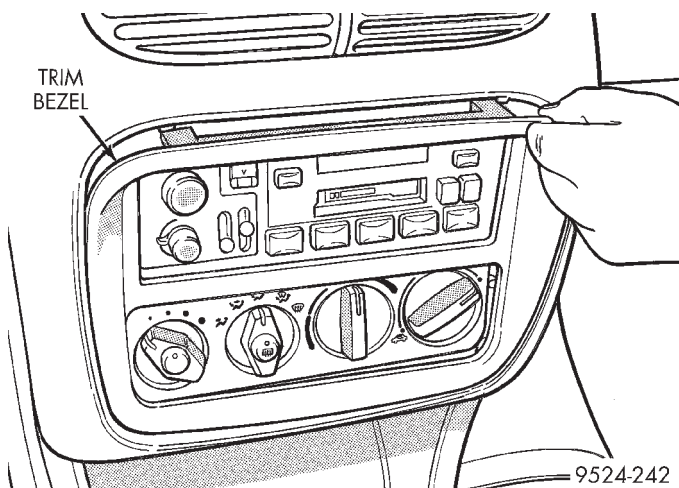

**Fig. 66 Trim Bezel**
- (1) Place the ignition key in the OFF position before removing control module.
- (2) Remove trim bezel (Fig. 66).
(2) Using an A/C recovery unit, remove all R-134a refrigerant from the A/C system.
(3) Remove air cleaner hose and air distribution duct from the engine.
(4) Drain the engine cooling system.
(5) Disconnect heater hoses at the dash panel. Plug the heater core inlet and outlet tubes to prevent antifreeze from spilling on the vehicle interior during removal. If an appropriate plug cannot be found pull back carpet and use caution when removing unit. Keep the heater tubes elevated to prevent spillage of coolant.
(6) Remove both A/C lines from expansion valve. Use Special Tool Kit 7193 to disconnect quick connectors on A/C lines. Refer to A/C line removal in this section for complete procedure. After removing lines cap the expansion valve openings and the A/C hose openings. This will prevent any dirt or moisture from entering the refrigerant system during servicing.
(7) Remove trim bezel (Fig. 66).